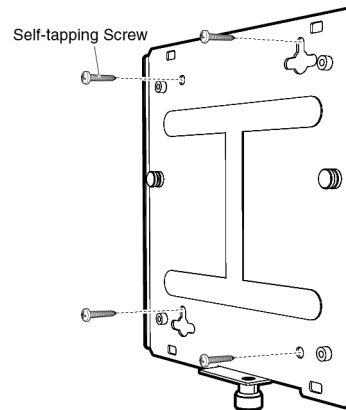

Figure 6. Mounting Base Plate
4. Mount the base plate to the wall or ceiling using the self-tapping screws, as shown in Figure 6.